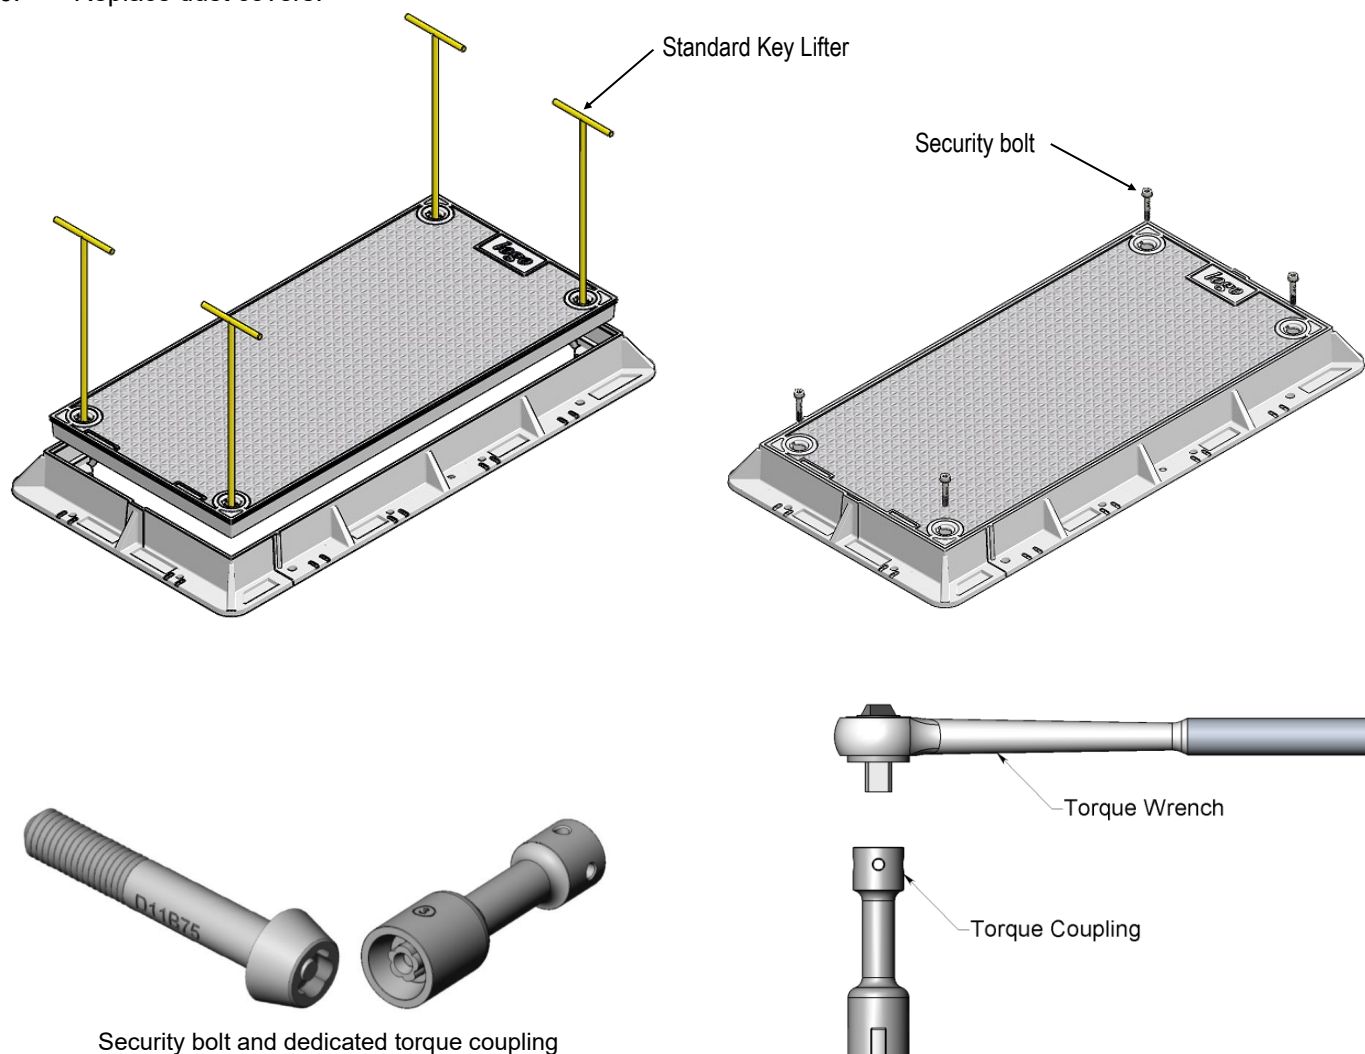

Fig 7
3. Lower each cover into the frame using the 4x **B000-11-KL-12 Standard Key Lifters** at the lifting points on each cover. The lifting points are found in the bolt pockets in each corner. No heavy lifting equipment is required. *Refer Fig 7.*
5. Insert the security bolts into the pockets in each corner of the cover and use the torque wrench and **torque coupling** to tighten them to 70 ft lbs (95 Nm) of torque. *Refer Fig 7.*